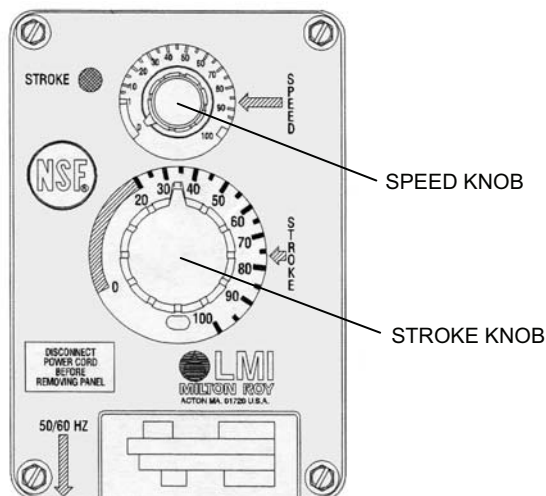

Figure 4. Chemical Injection Pump Control Knobs.
6. Start-up/prime the new Chemical Injection Pump as follows (see Figure 4):